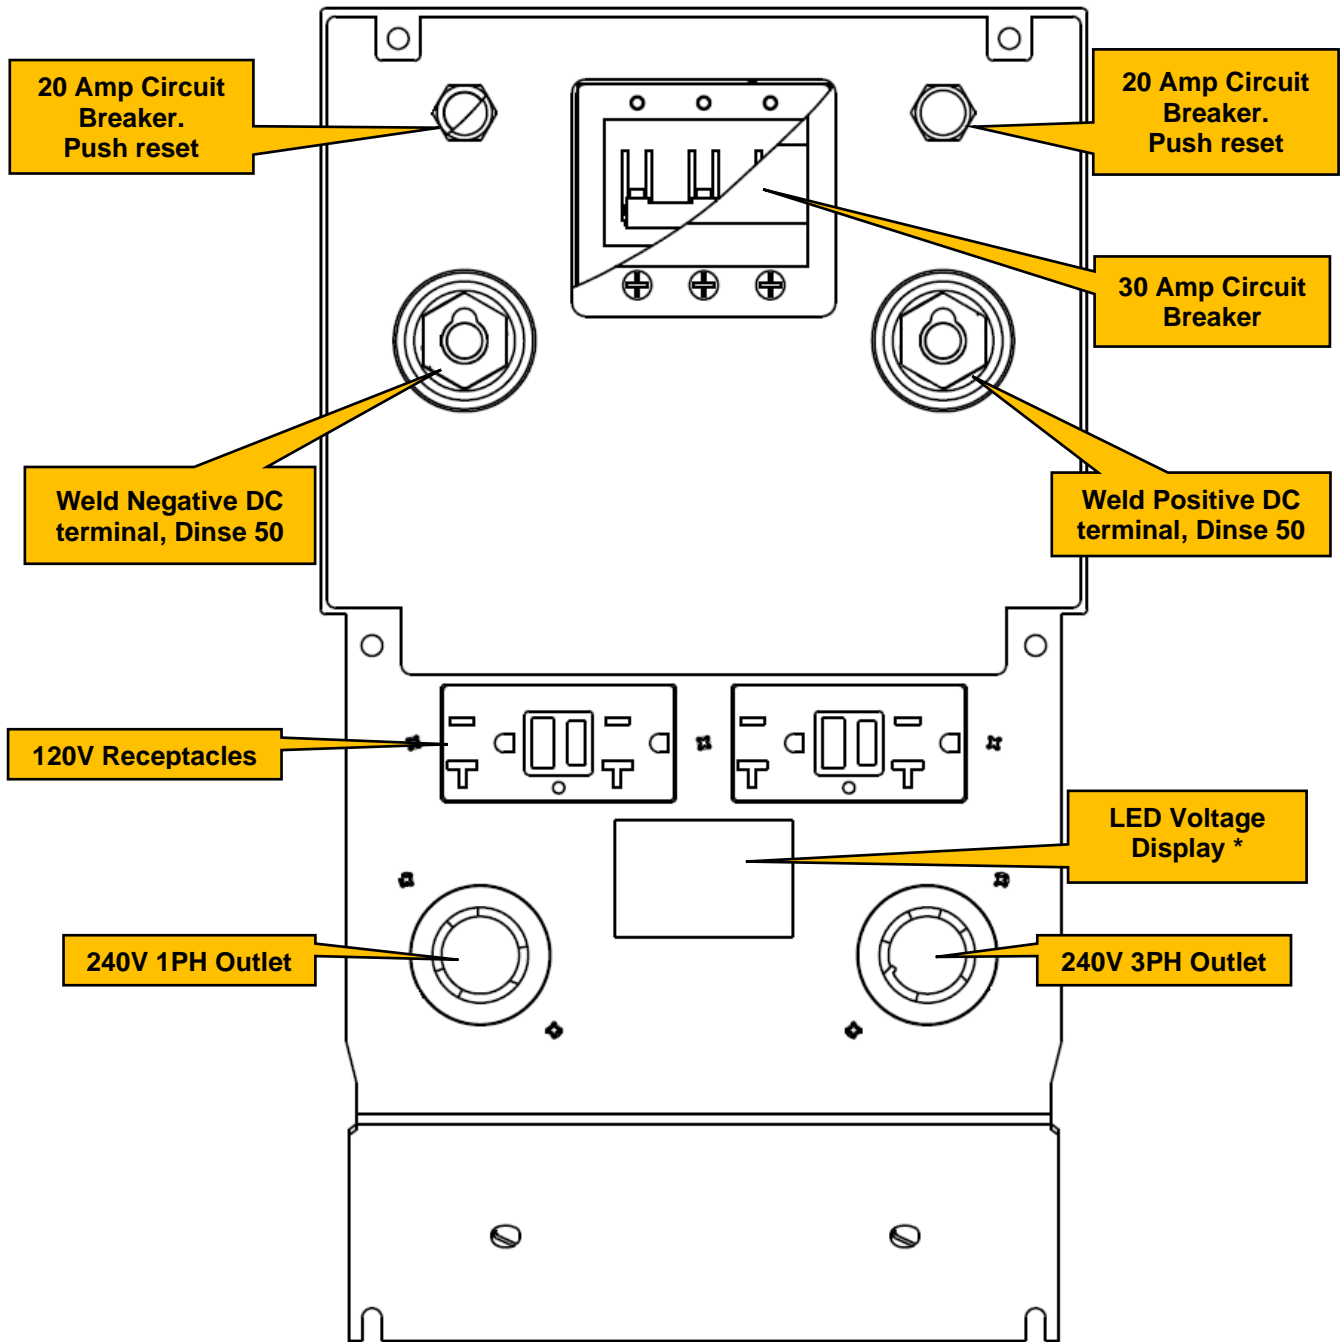

Figure 2
5. Locate the two 120V receptacles, above the 240V outlets and LED Voltage display (Figure 2). Use a multimeter set to its AC voltage setting to measure between the small slot and large slot in each of the 4 120V AC outlets. Record the results in Table 2 below and compare them to the specifications.
*\* The generator's LED Voltage display (Figure 2) has 5 LEDs. The bottom LED indicates "210V", however it simply means that the generator is producing somewhere between 0V and 210V. If only the lowest LED is lit, the generator is likely not producing 210V but something much lower.*
7. The terminal strip is located on the front of the generator in the same location as the receptacles and LED voltage display would be located in Figure 2. Remove the lid that is held in place by 6 screws to access the terminal strip.